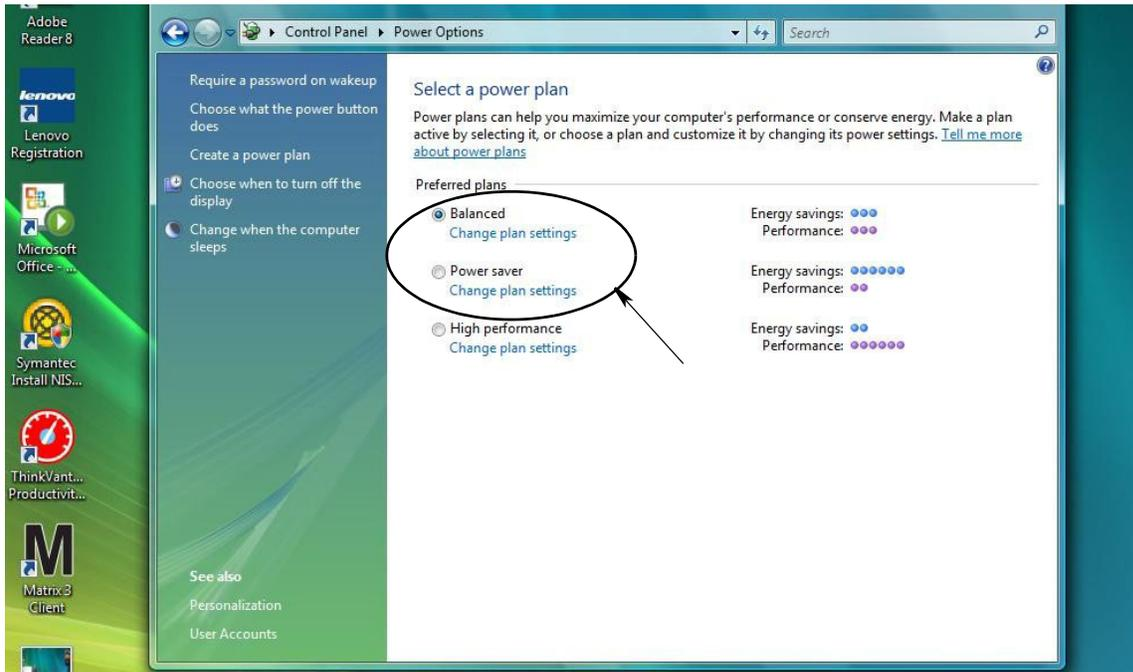

FIG. 18
3. Select either “Balanced” or “Power Saver” power plans and then click the Change Plan Settings link to view the hibernation options (FIG. 18).